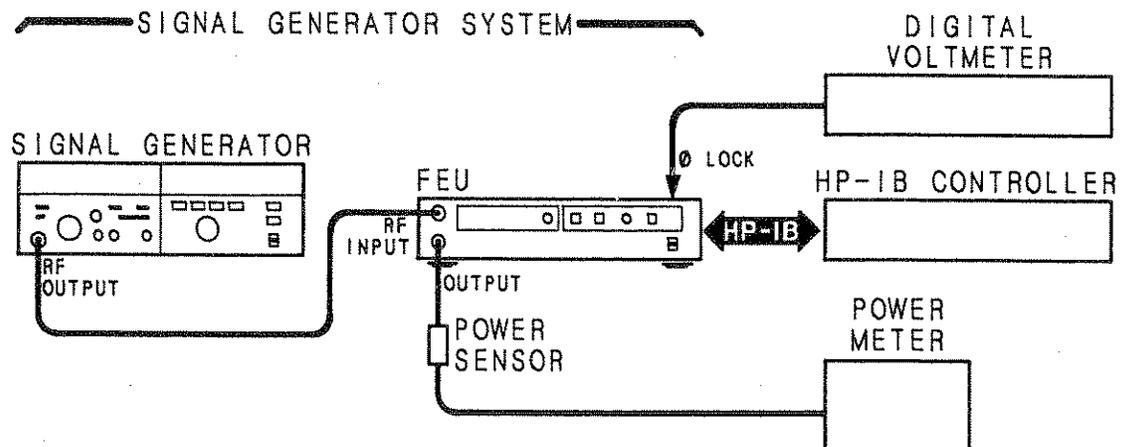

Figure 5-1. Low Band Adjustment Setup
- Connect equipment as shown in Figure 5-1 and apply power.